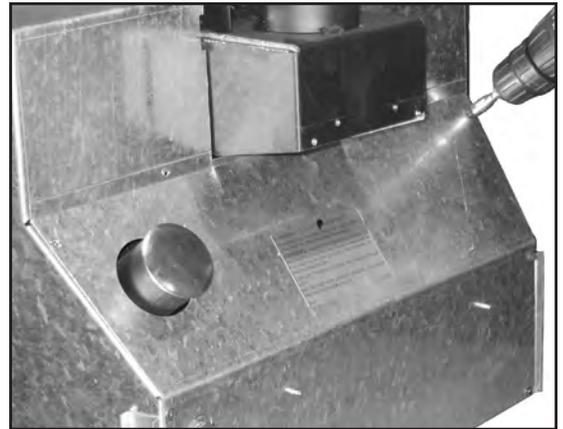

Figure 47: Removing Back Plate From Sonnet.
1. Use a flat head screwdriver or 1/4" socket to remove the nine (9) screws holding the back cover on (see Figure 47).